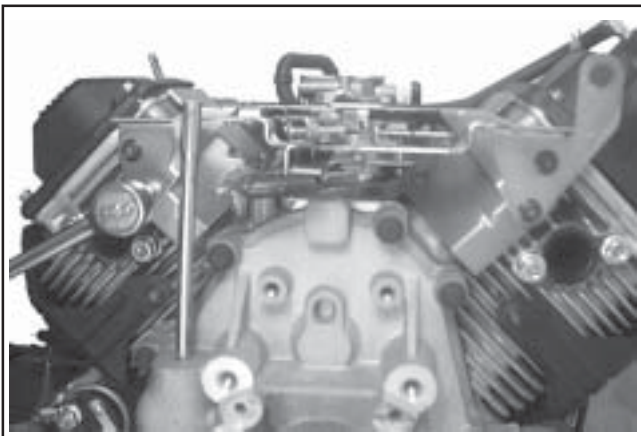

Figure 9-21. Removing Control Bracket.
1. Remove the four hex flange screws securing the control bracket and rear air cleaner bracket (some models) to the cylinder heads. See Figures 9-21 and 9-22.